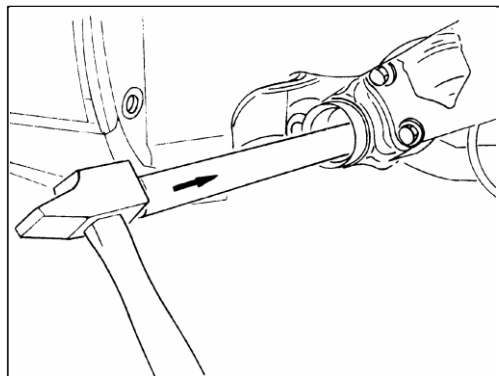

Figure 4-42 Remove Medial Needle Bearing
3) Rotate nut components (special service tool), remove medial needle bearing. In case it's difficult to remove the components, a tube with inner diameter of 21mm, length of 1m can be used to knock plate (special service tool), to remove bearing. (as shown in Figure 4-42).